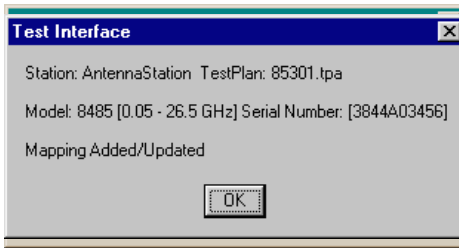

Figure 16 *Mapping Added/Updated*
13. Click **OK** when the dialog box is displayed. See Figure 16.